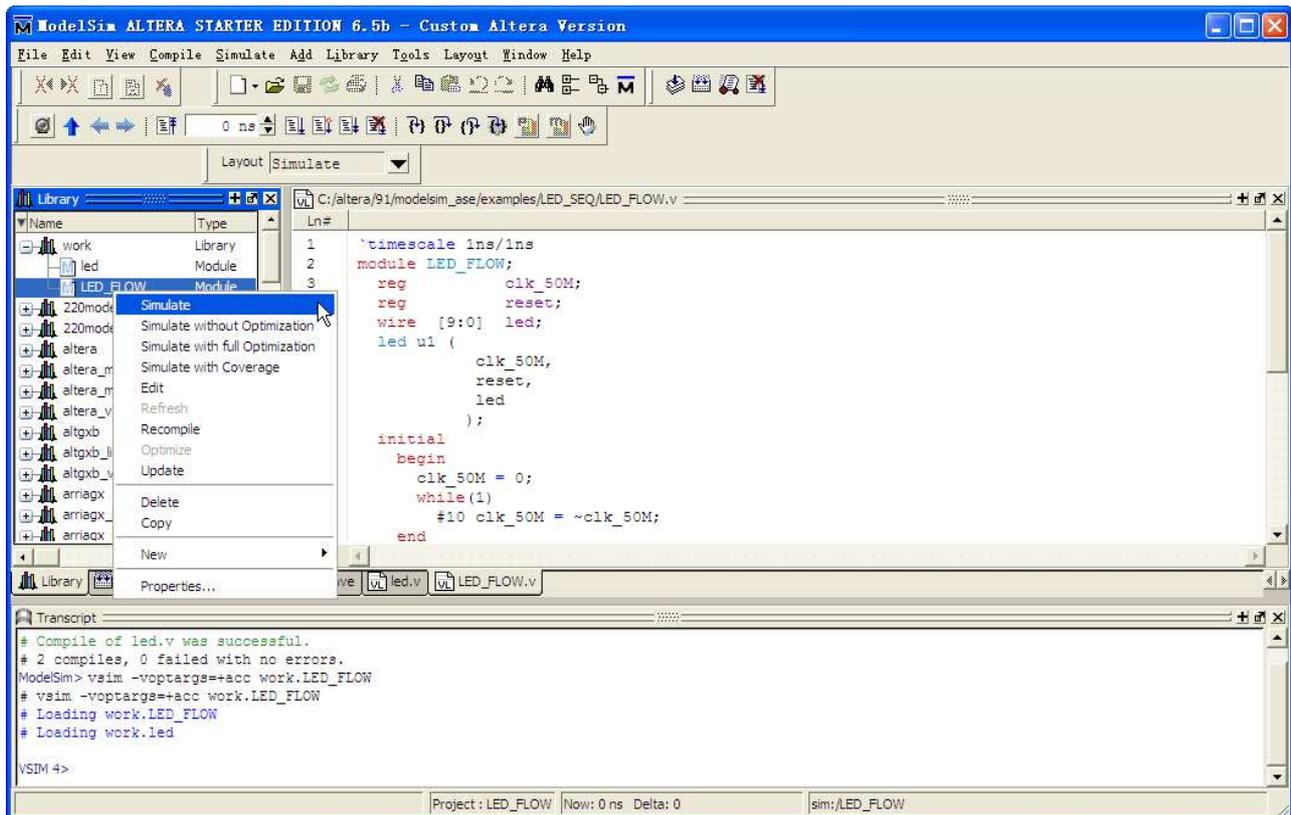

Figure 3.1 Click Simulation
1. Click **library** icon, select **work**, and click **+** to expand the options, then select **LED_FLOW**, click the right mouse button, finally select simulation, shown in Figure 3.1.